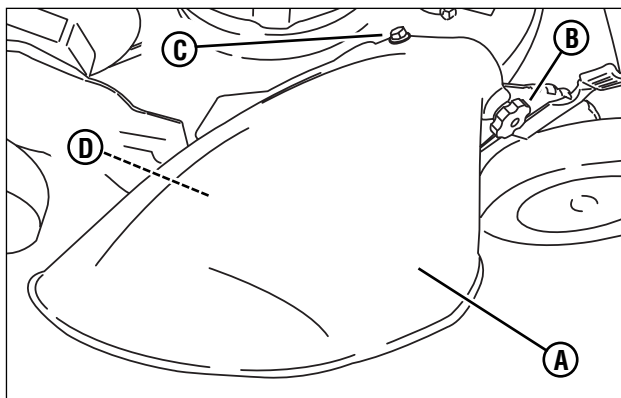

Figure 10: Installing the discharge deflector
2. Install the deflector (**A**, **Figure 10**) to the deck in place of the recycling cover, making sure that: